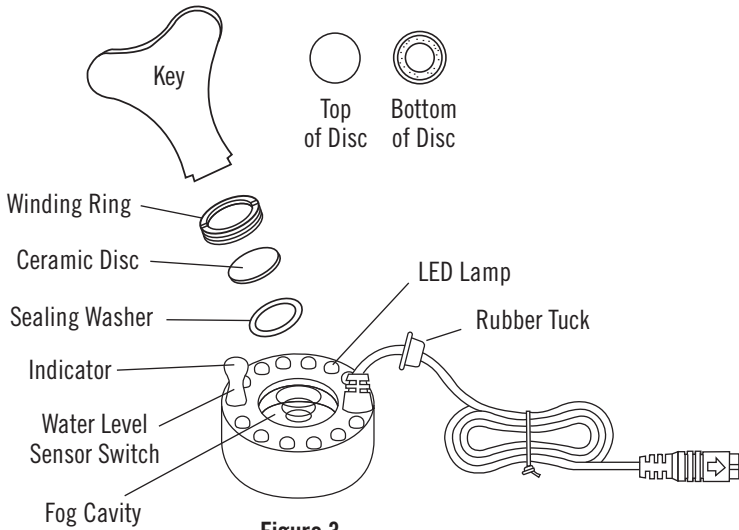

Figure 3
- Insert the key provided (see Fig. 3) into the winding ring and unscrew counter clockwise.